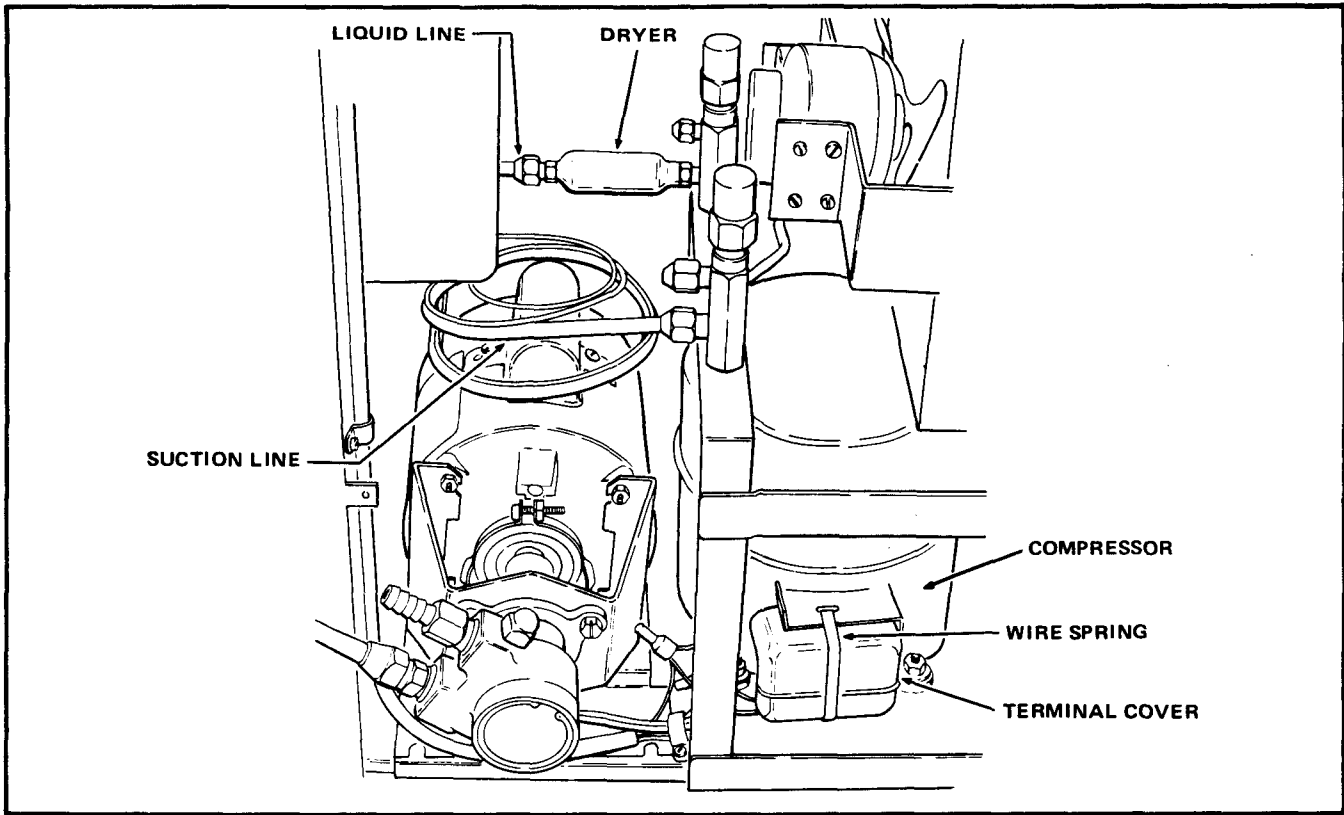

FIGURE 8
27. Disconnect the Suction Line and the Liquid Line in the Refrigeration Compartment. See Figure 8.
28. Remove the Dryer from the Refrigeration Compartment. See Figure 8.
29. Remove the Wire Spring and the Terminal Cover from the Refrigeration Module Assembly. See Figure 8.